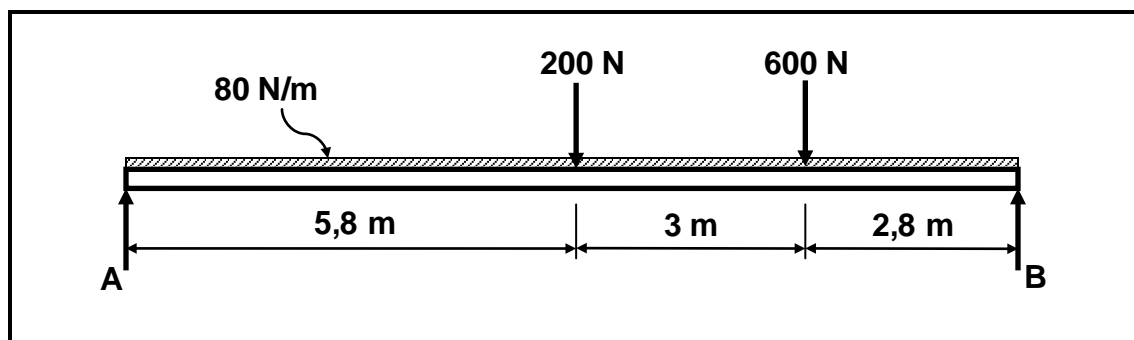

FIGURE 7.2
7.3 FIGURE 7.2 below shows a uniform beam that is supported by two vertical supports, **A** and **B**. Two vertical point loads of 200 N and 600 N, together with a uniformly distributed force of 80 N/m over the total length of the beam, are acting on the beam. Determine, by means of calculations, the magnitudes of the reactions in supports **A** and **B**.